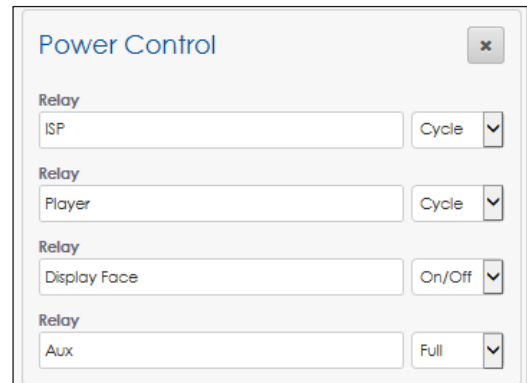

Figure 58: Peripherals - Power Control
Many displays include four standard power control relays. To configure these relays, follow these steps while referring to **Figure 58**.
1. Type a descriptive name for the power control relay in the **Relay** field. The example in **Figure 58** shows four relay names typically used in a standard billboard display.